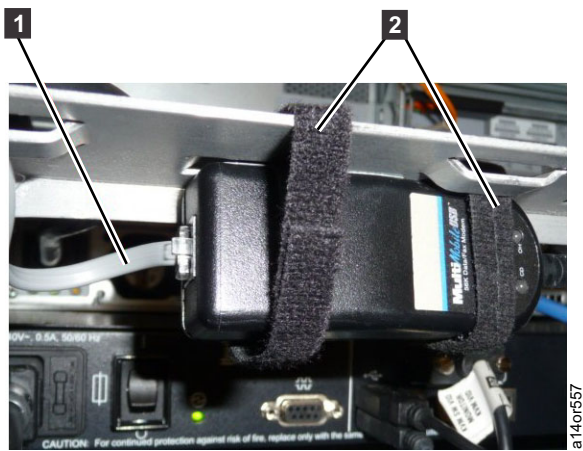

Figure 2-12. Securing the USB Modem to the Frame.
Note: If the TSSC server FC 2724 and the TSSC model FC 2734 are provided with the 3952 F05 frame, the TSSC server is already installed in the F05 and the modem needs to be installed on the cable routing bracket as shown in Figure 2-12 on page 2-12.
9. See **Figure 2-12 on page 2-12**.